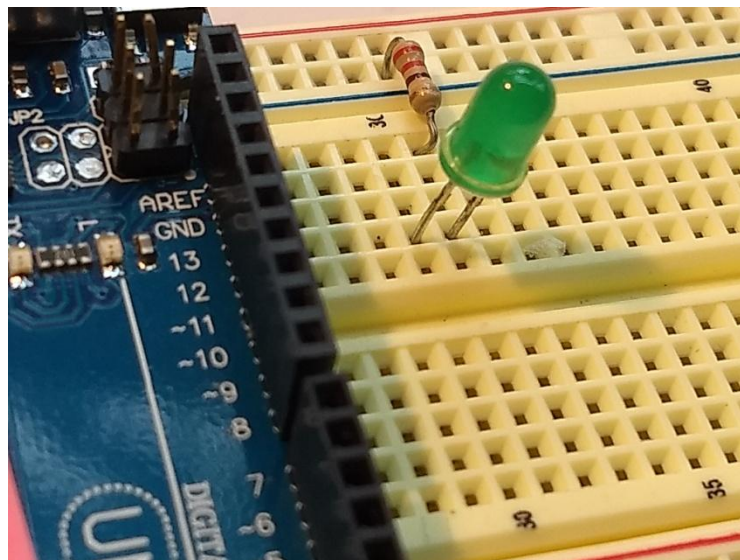

Figure 7. Adding the LED and resistor.
**1. Using a 220-Ohm resistor, connect hole J31 to ground. Then insert the LED, with its power pin in hole G30 and its ground pin in hole G31, as shown in Figure 7.**